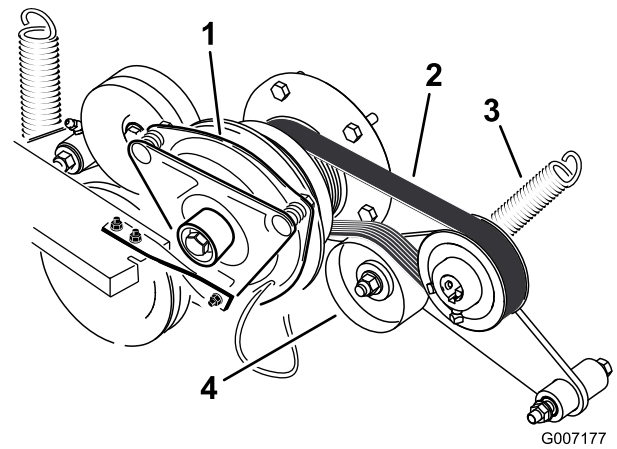

Figure 73
3. Remove the spring from the idler arm (Figure 73).
4. Install the new belt around the engine and hydro pump pulley (Figure 73).
6. Install the spring to the idler arm (Figure 73).